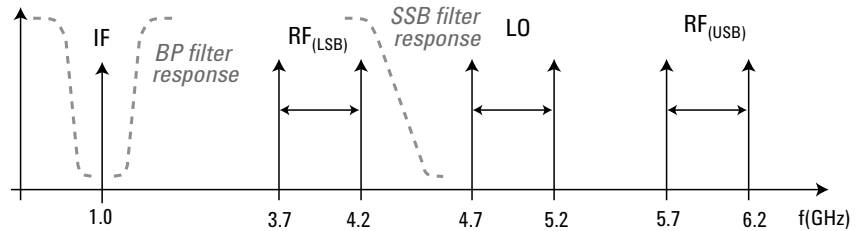

Figure 13. Frequency map
11. The governing equation for this measurement is $LO=RF+IF$. The frequency map for this measurement is shown in Figure 13.